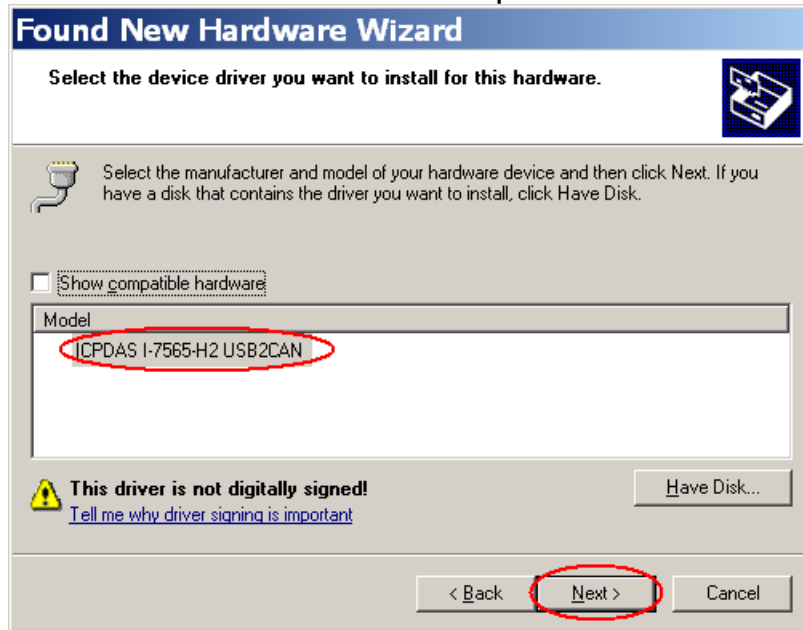

Figure 7.8-2: Driver Installation of I-7565-H1/H2 (2)
(4) When the Figure 7.8-2 shows, click “Next” button and the other steps are the same with those in chapter 3.